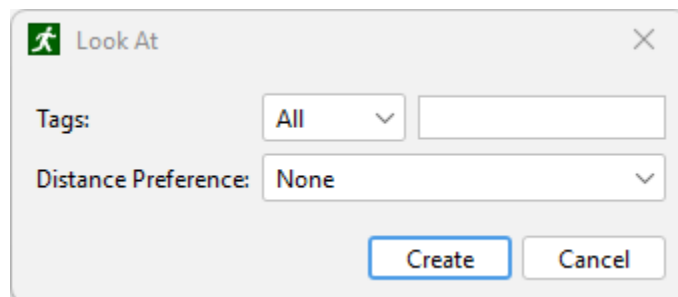

Figure 123. Look-at Dialog
2. Enter the desired parameters in the **Look-at** dialog as described below and shown in Figure 123.